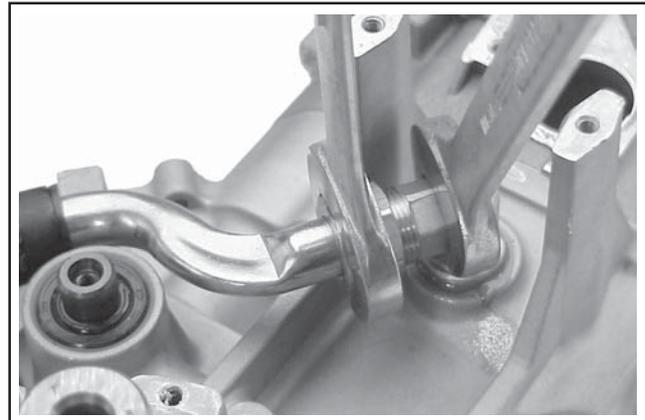

Figure 9-47. Loosening Hex Cap Section of Fitting.
1. Loosen and unscrew the hex cap section securing the transfer tube to the 90° fitting in the crankcase. See Figure 9-47. Support the fitting with a wrench, when loosening the hex cap section.